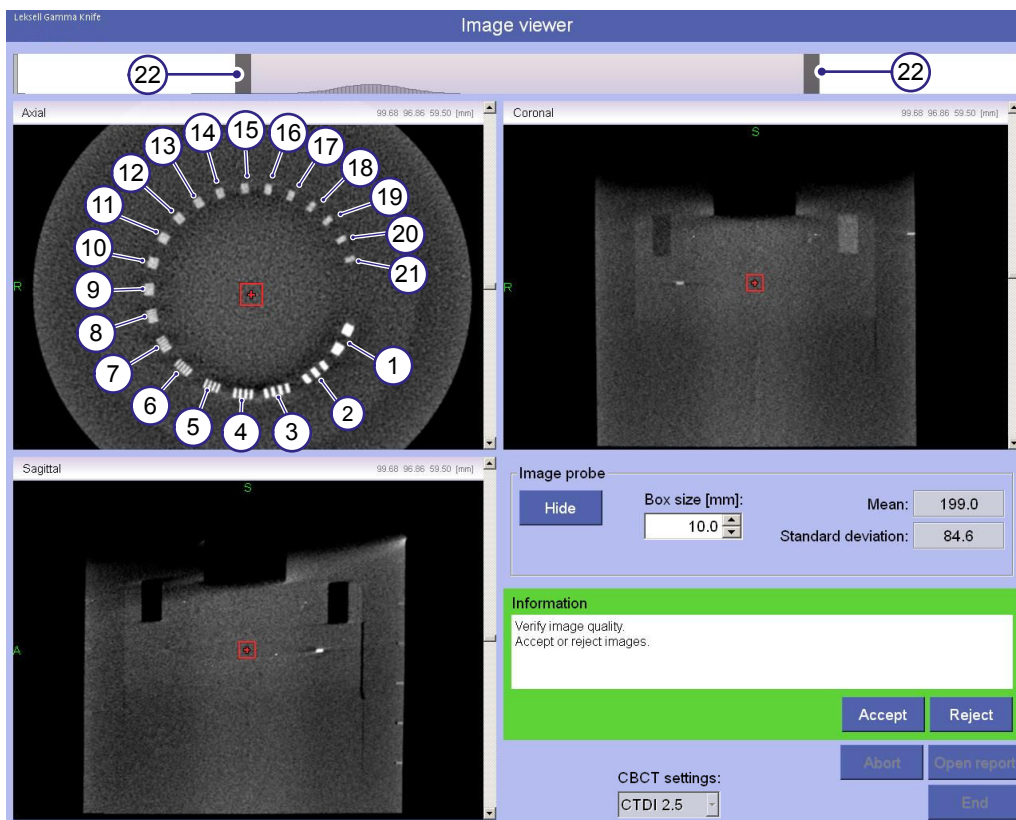

Figure 6.7 Image stack section with line pairs
(1) - (21) 1 - 21 line pair/centimeter (lp/cm) (22) Handle
- 2 Use the handles (22) at the top of the window to adjust the contrast of the images.
- 4 Find the highest numbered line pair in **Figure 6.7** where each of the lines within the line pair can be seen clearly.